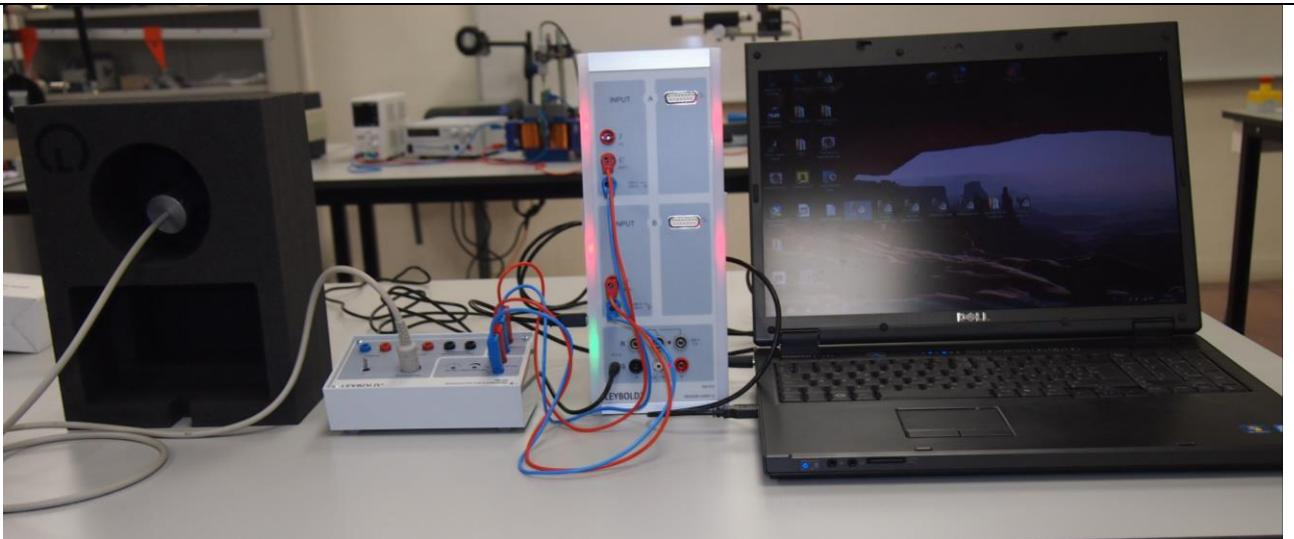

Figure 5. Experimental set-up for the determination of the TC of $\text{YBa}_2\text{Cu}_3\text{O}_7$.
- 6.1 Check that all the connections are properly performed (see Fig. 5). Check that the computer is switched on. If it is off, you must switch on.